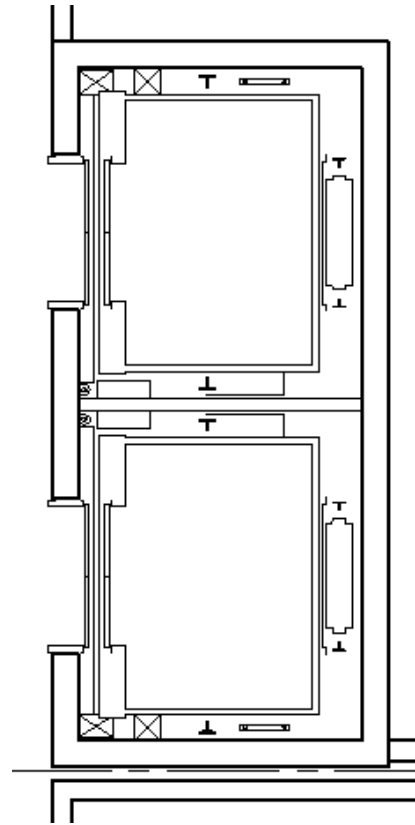

Figure 3-3.11 Elevator added to plan
28. **Trim** the wall lines and place the jamb lines on **A-wall** layer (not the elevator frame, just the line that closes off the wall); see Figure 3-3.11.
Your elevator should now look like Figure 3-3.11. Several details are drawn, such as the guide rail, the cab door, the floor level door and even the pit ladder.
Many architectural firms have a copy of the major elevator manufacturers' technical catalogs which provide enough information to manually draw everything in Figure 3-3.11. But it is not difficult to see how the internet can save time when AutoCAD content is available; not all manufacturers provide AutoCAD drawings of their products.